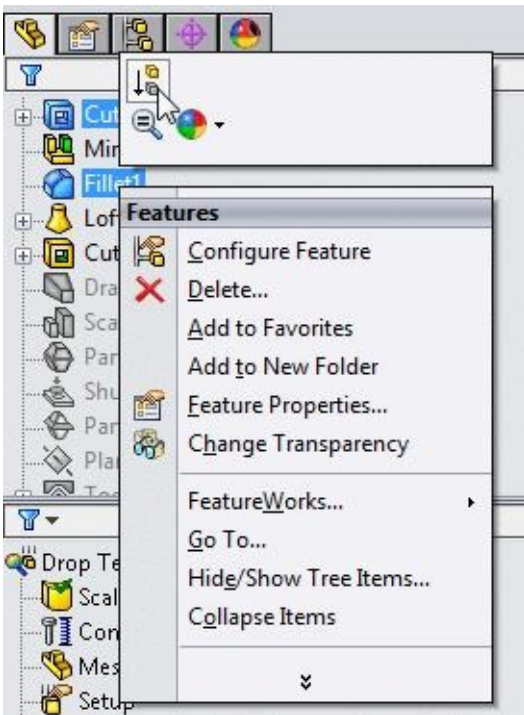

Figure-5. Suppress button
- Right-click on any of the selected element and select the **Suppress** button; refer to Figure-5.